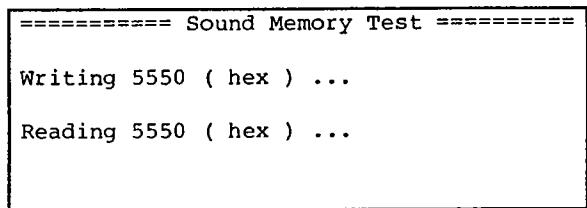
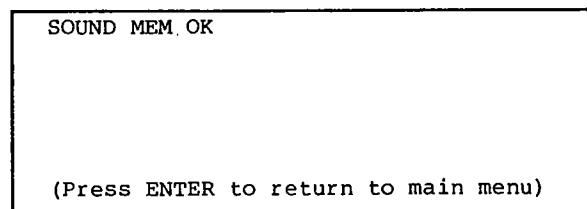

Fig. 5-13
Fig. 5-16
2. If the DRAM function is normal, the test will be carried out automatically in order of Fig. 5-13, 5-14 and 5-15 after which the display will change to the screen as shown in the Fig. 5-16.